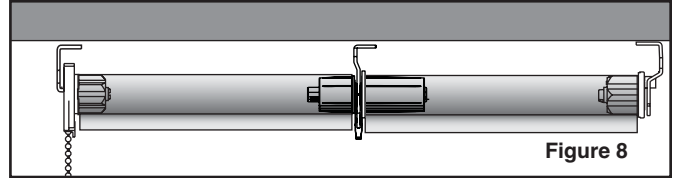

Figure 8
8. Slide the assembly up into the link bracket making sure the curved edge of the bearing faces upward. (See Figure 8)